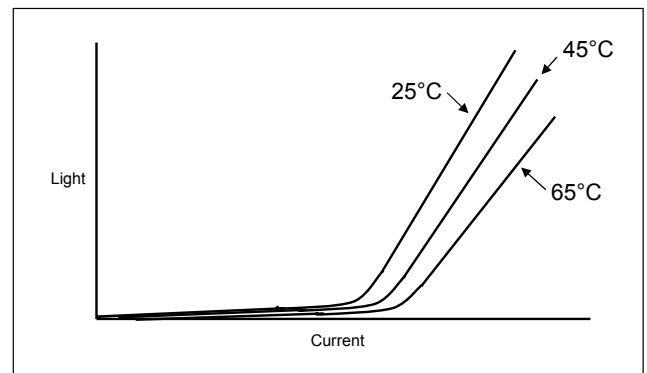

Figure 5 - I_{TH} vs. Temperature
To understand the utility of the ILX Parametric Analyzer, it is useful to look at a typical example of how it can automatically perform L/I/V analysis in order to derive important characteristic information on a laser diode. The threshold current, I_{TH} , is a function of the temperature of the laser diode chip, increasing as operating temperature is increased. Figure 5 shows a typical plot of I_{TH} versus temperature (T). The rate of change dI_{TH}/dT in mA/°C is defined by